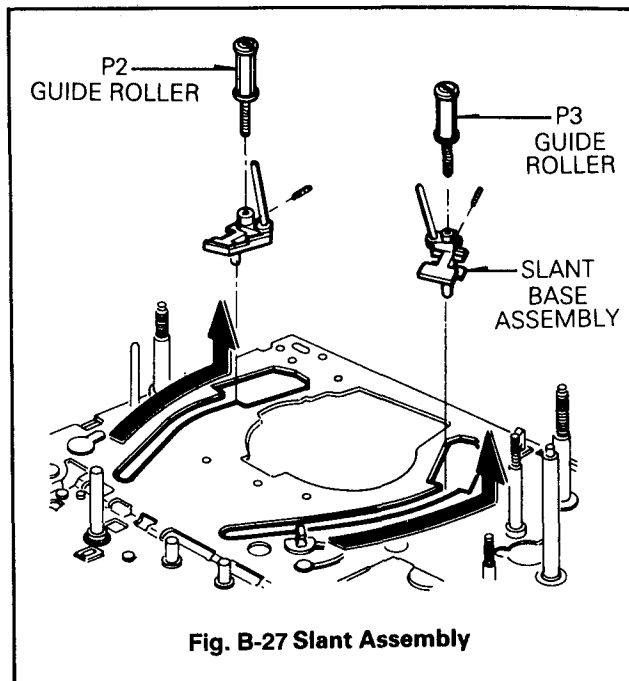

Fig. B-27 Slant Assembly
27. P2 and P3 Slant Assembly(Fig. B-27)